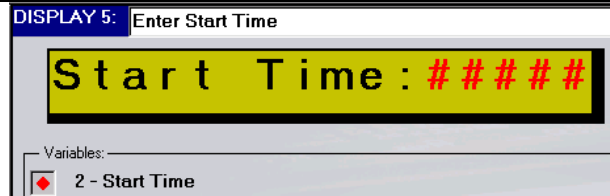

Figure 77. Display 5 with Attached Variable
3. Enter **VR 2 Start Time**; then press **OK**. Display 5 shows the Variable-linked spaces as red pound signs as shown in Figure 77 below. Now, format the Variable.
3. Enter **VR 3 End Time**; then press **OK**. Display 6 shows the Variable-linked spaces as red pound signs as shown in Figure 77 below. Now, format the Variable.